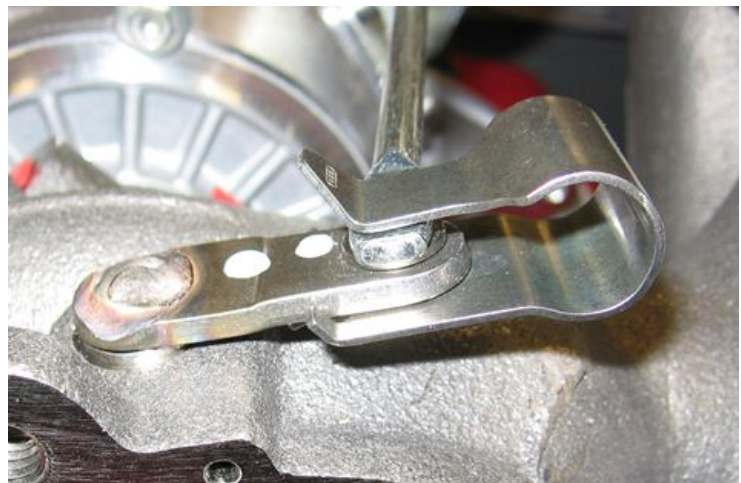

Figure 4. Correctly-fitted clip.
3. After fitting the spring clip, check for correct fit (Figure 4).